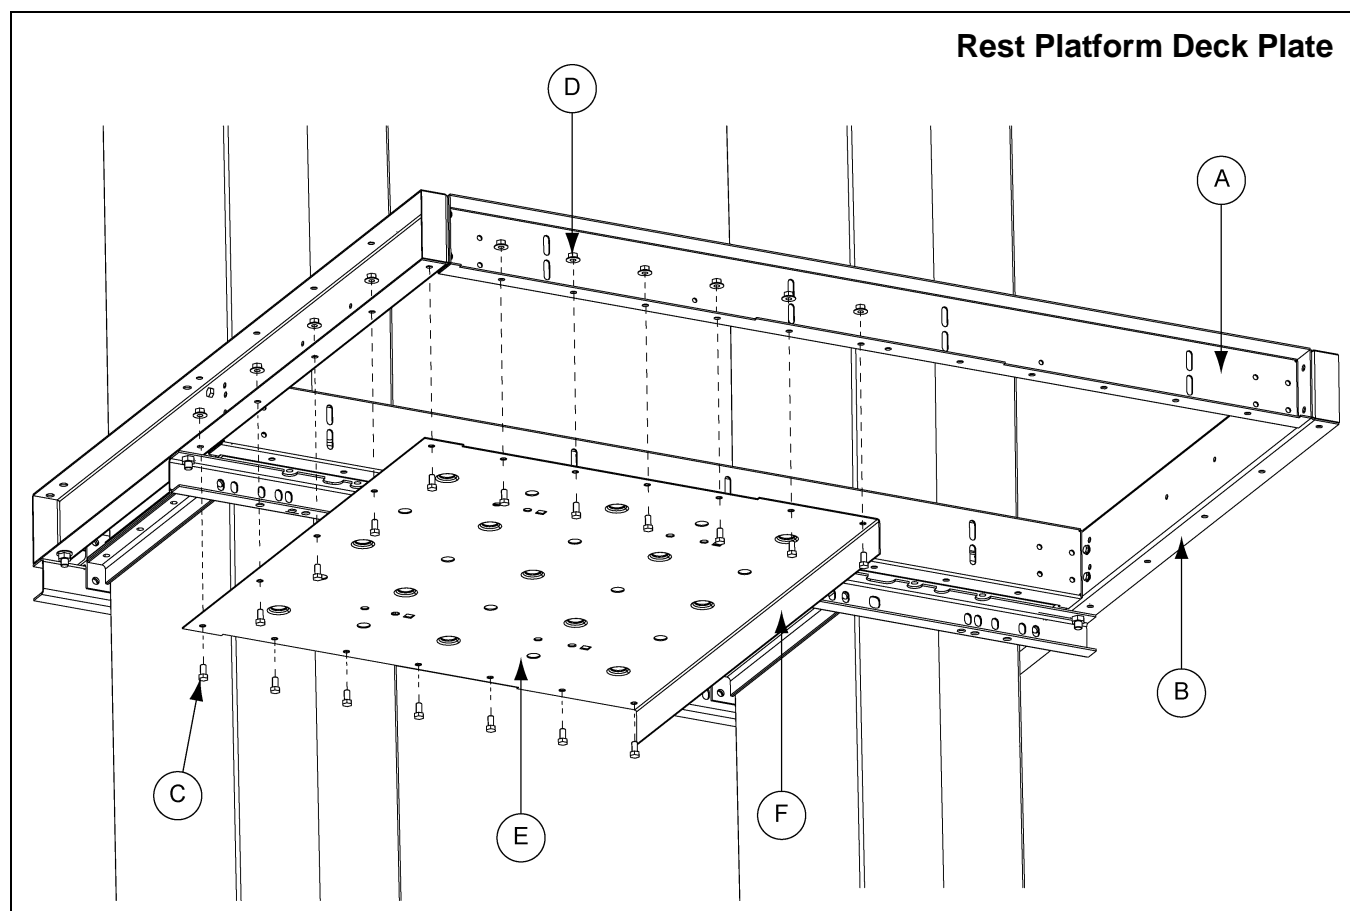

Figure 7G Deck Plate
2. Attach rest platform deck to the bottom of the rest platform mounting channels (RP1636MCX) (B) and rest platform cross channels (RP1636CCX) (A), using 3/8" x 3/4" hex bolts (S-7105) (C). Bolt heads should be installed against the deck plate. *(See Figure 7G.)* **NOTE:** The deck plate can be mounted on either the right or left side, but the flange must be mounted towards the opening.